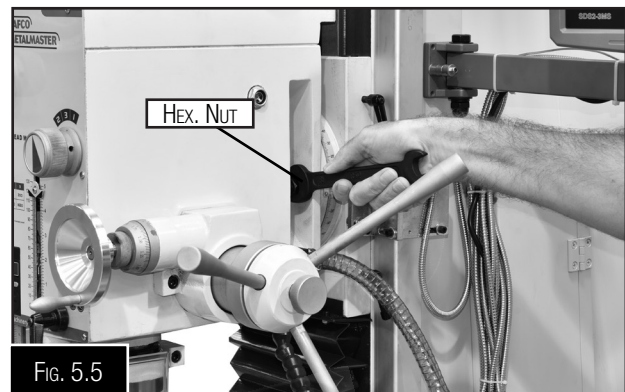
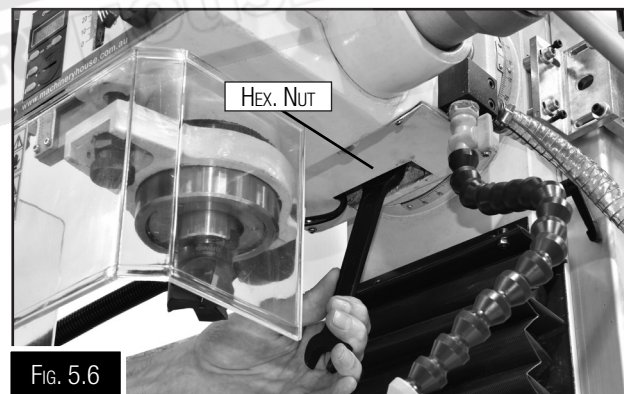

Fig. 5.5
Fig. 5.6
2. Loosen the three locking hex nuts a 1/4 to 1/2 a turn. There is one on either side of the head (Fig. 5.5) and one under the bottom of the head (see Fig. 5.6).